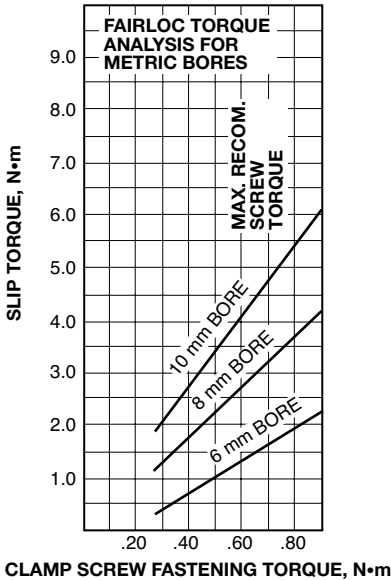

Figure 3
**Figure 3** shows the torque at which the sample Fairloc® gears started to slip on the shaft. All gears and shafts were made of 303 Stainless Steel. Gear bores were within +0.0075 mm of nominal values. Shafts had surface finishes of 0.4 μm maximum and were within -0.005 mm of the nominal diameters.